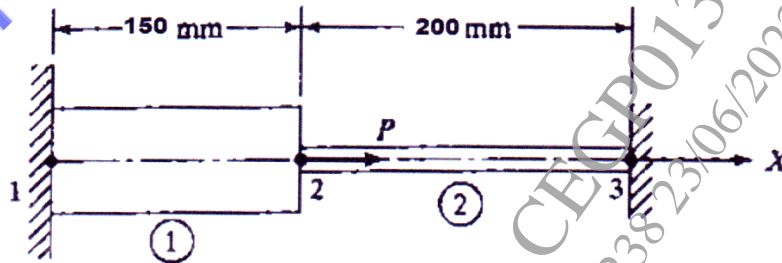

Figure 1
**Q1) a)** An axial load  $P=200$  kN is applied on a stepped steel bar as shown Figure 1.  $A_1 = 2000\text{mm}^2$ ;  $A_2 = 800\text{mm}^2$ ;  $E_1 = 70$  Gpa;  $E_2 = 200$ Gpa.